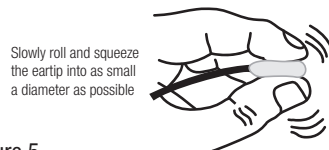

Figure 5
3. To facilitate placement, firmly roll eartip into the smallest diameter possible before inserting it into the ears. (Figure 5)